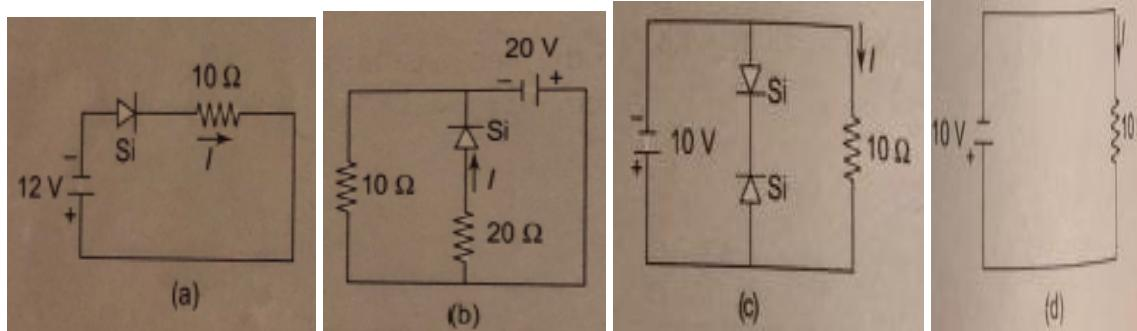

Fig.7
**Problem Q7:** For the diode circuits of Fig. 7, find the value of I. Use approximate model of the diode.